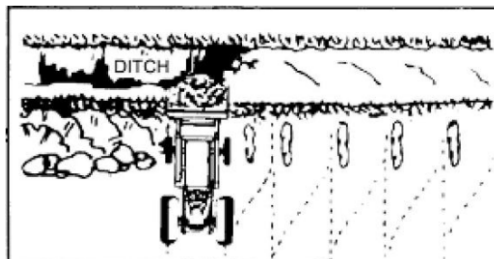

Fig 4.23 Leave drifts or final cleanup
- Leave dirt which drifts over the side of the bucket for final clean -up shown in figure 4.23.